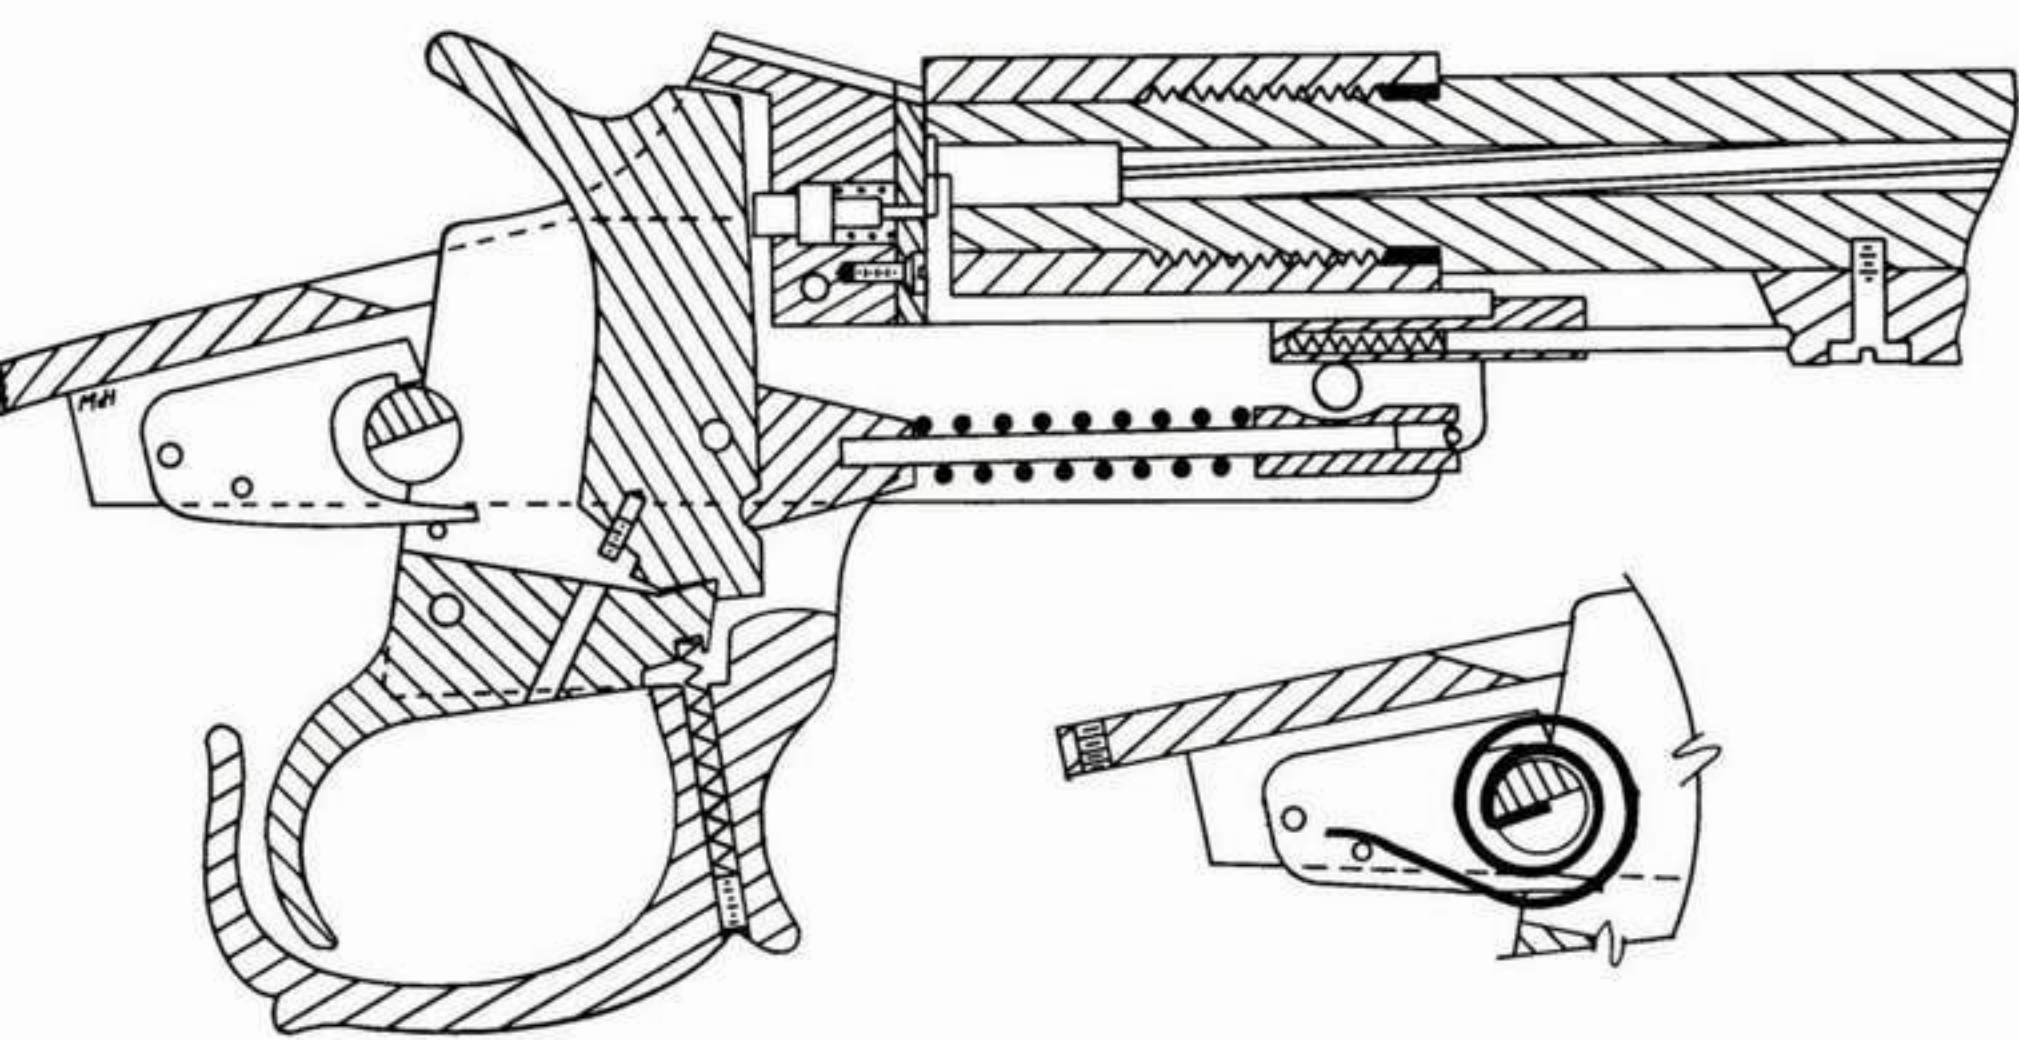
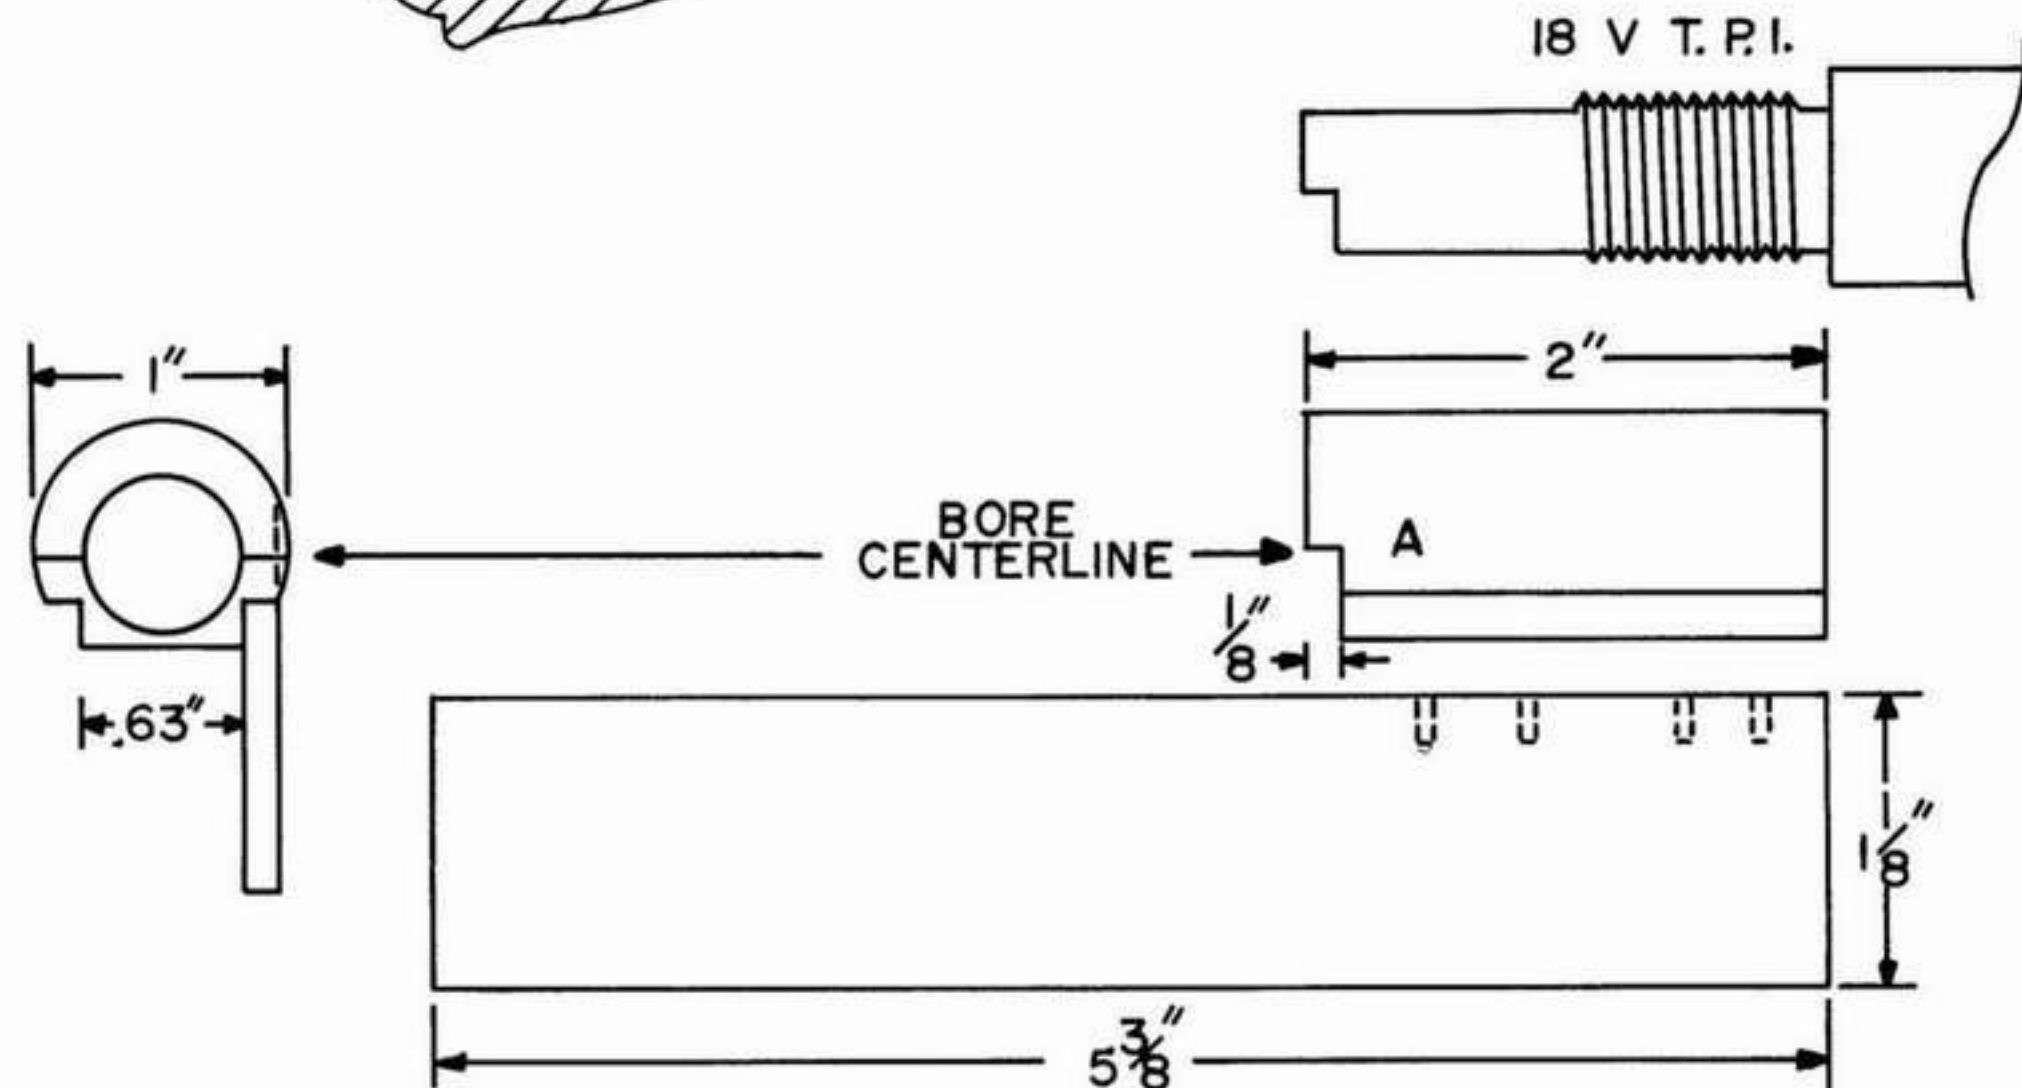

Fig. 4-2 SIDE CROSS SECTION VIEW OF THE F.D.H. CHICOPEE R.F. ACTION
Fig. 4-5 RECEIVER PARTS
The firing pin assembly, showing front and side views of the firing pin block, front and side views of the breech block faceplate and side view of the firing pin and retractor spring. The grooved top of the firing pin block serves as the loading platform. A Weaver scope mount screw is used to join the parts together as shown in Figs. 4-2, 4-3 and 4-4.
ASSEMBLING THE RECEIVER (see Figs. 4-5, 4-6)
Before attaching the receiver sides to the receiver ring it is recommended that you spot and drill the hinge pin hole in one of the sides. Do this by clamping one side and the receiver ring together on a board or metal plate with the front of the receiver ring flush with the front of the receiver side. In the sectional view drawing (Fig. 4-2) you will note that the stem of the extractor and the breech block face plate (7) fit between the breech block and the receiver ring. Therefore, to spot and drill the hinge pin hole accurately position pieces of metal of the thickness of these two parts, or better yet, the pieces of metal that you will use for these parts (1/8" for the face plate and 7/64" for the extractor stem) in place, clamp the breech block side in place and drill the hinge pin hole using the hole already in the breech block side as the guide. Now you are ready to assemble the receiver sides to the receiver ring. We recommend silver brazing using the silver-solder wire. You will have to figure out a way of holding the three parts together and aligned so that the brazing is made sure and easy. We do it by using three C-clamps and two spacers. The spacers must be the same width as the distance between the grooves in the receiver ring for the receiver sides, or .630-.635". Make them from a piece of 1/4" or 3/8" steel pipe. If you have already made the tang (33) then it can be used as a spacer. Place one spacer at the lower edge of the receiver below the receiver ring with a clamp to hold the receiver sides in proper place on the receiver ring. Use another clamp from the top of the receiver ring to the bottom of the receiver to hold the three parts together in that direction. Place the second spacer at the rear of the receiver and clamp it in place. Vise-grip welding clamps can be used instead of the C-clamps. When you are assured that whatever clamping arrangement you want to use will work, disassemble the parts, clean the areas where the silver-solder must go, spread on a thin even layer of flux, insert the pieces of silver solder wire into the holes in the receiver side as shown in Fig. 4-5, reassemble and then apply heat from an oxy-acetylene torch until the silver solder has flowed entirely throughout both joints. Be sure that the extractor cut in the receiver ring is to the rear. The tang must not be brazed in until the breech